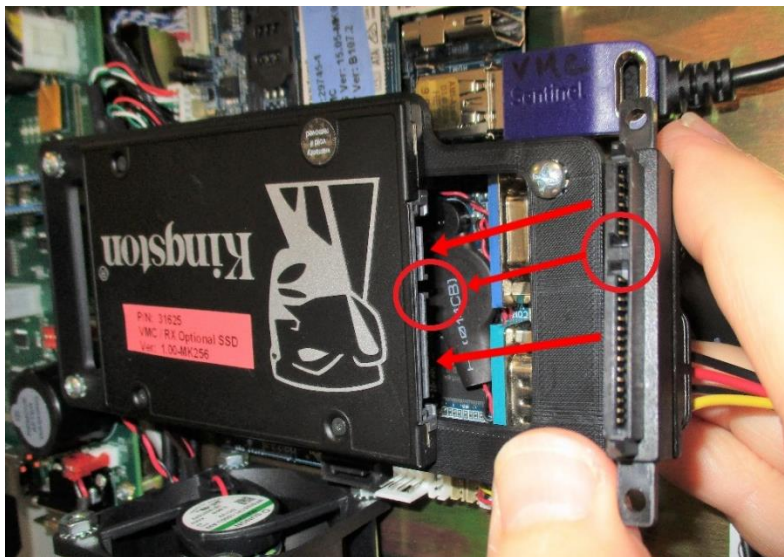

Figure 5.1.4c
5. Install Cable on SSD card which consists of either two separate cables (power and data) or one cable with two wires attached. Each cable has a notch on the connector that only permits the cable to be installed one way due to the matching notch on the memory card and the sizes of the wires as shown in Figure 5.1.4c.